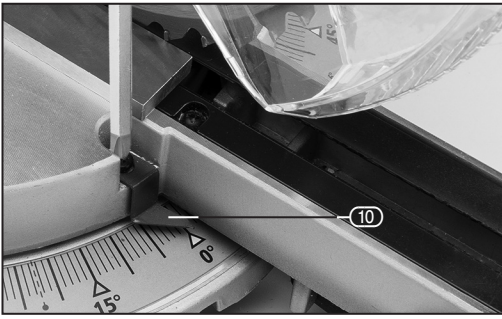

FIG. 9
6.8 MITRE POINTER ADJUSTMENT – FIG.9
- Using a cross-slot screwdriver, loosen the screw that holds the mitre pointer (10) in place.